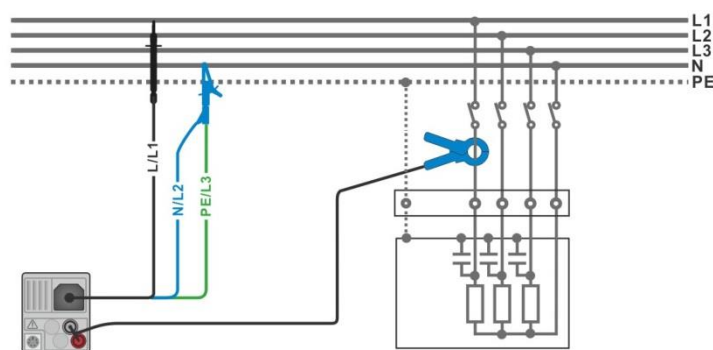

Figure 7.66: Harmonics measurement
- › Connect the voltage test leads and current clamp to the item to be tested, see **Figure 7.66**.